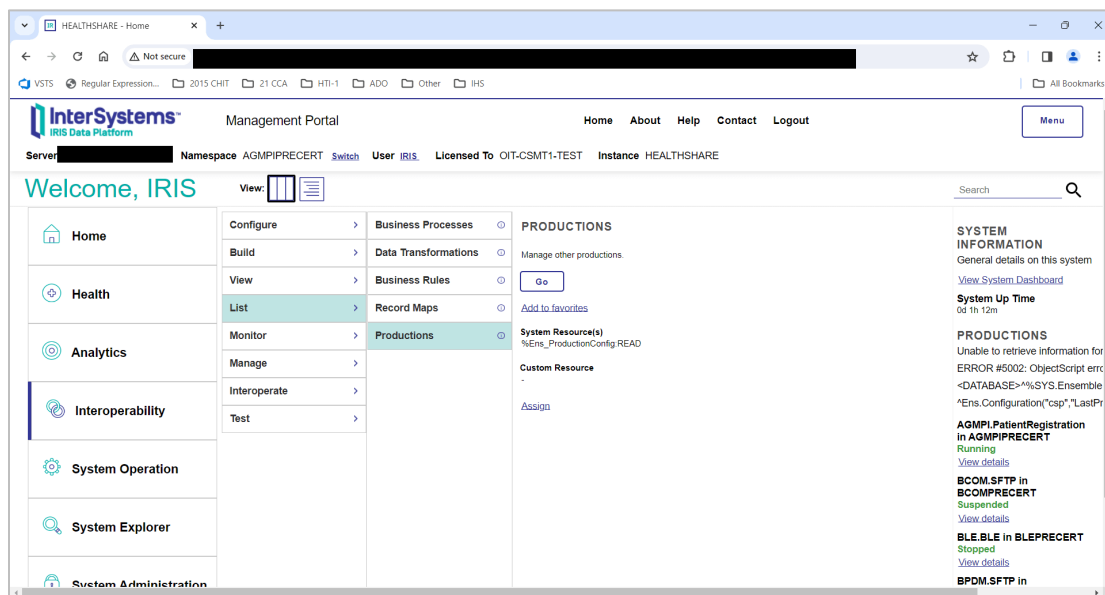

Figure 6-10: **Management Portal** page, **PRODUCTIONS** section
- For an alternative view of the currently running production, navigate to the **Management Portal** main page to display the production table in the **PRODUCTIONS** section on the right side of the page, as shown in Figure 6-10.